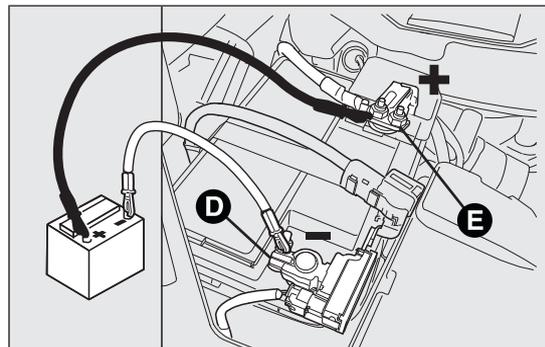

fig. 132
- connect the positive cable of the battery charger to the positive battery pole E fig. 132 and the negative cable to the terminal of sensor D;